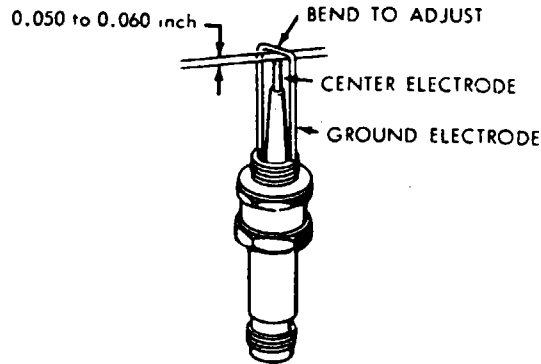

Figure 13-19. Spark Plug Gap Adjustment (39D59 Heater)
a. Removal: (Refer to Figure 13-19 or 13-20.)
c. Spark Gap Check and Adjustment: (See Figures 13-19 or 13-20.) A spark gap of 0.050 to 0.060 inches must be maintained on the 10D22 spark plugs. The 10D22 plugs are identified by the ground electrode loop per Figure 13-19. The 39D18 spark plugs require a gap of 0.156 to 0.188 inches. The 39D18 plugs are identified by the center electrode without the attaching ground electrode per Figure 13-20. The gap should be checked any time a plug is replaced or at the time of heater overhaul. A spark greater than that specified can shorten the life of the ignition assembly. Method I noted below is the gap setting procedure for the 10D22 spark plugs. Methods II and III are for the 39D18 spark plugs. Method II is recommended when the heater is being overhauled and before the installation of the fuel nozzle. Method III is suitable for checking the gap through the spark plug well when the heater is not disassembled.